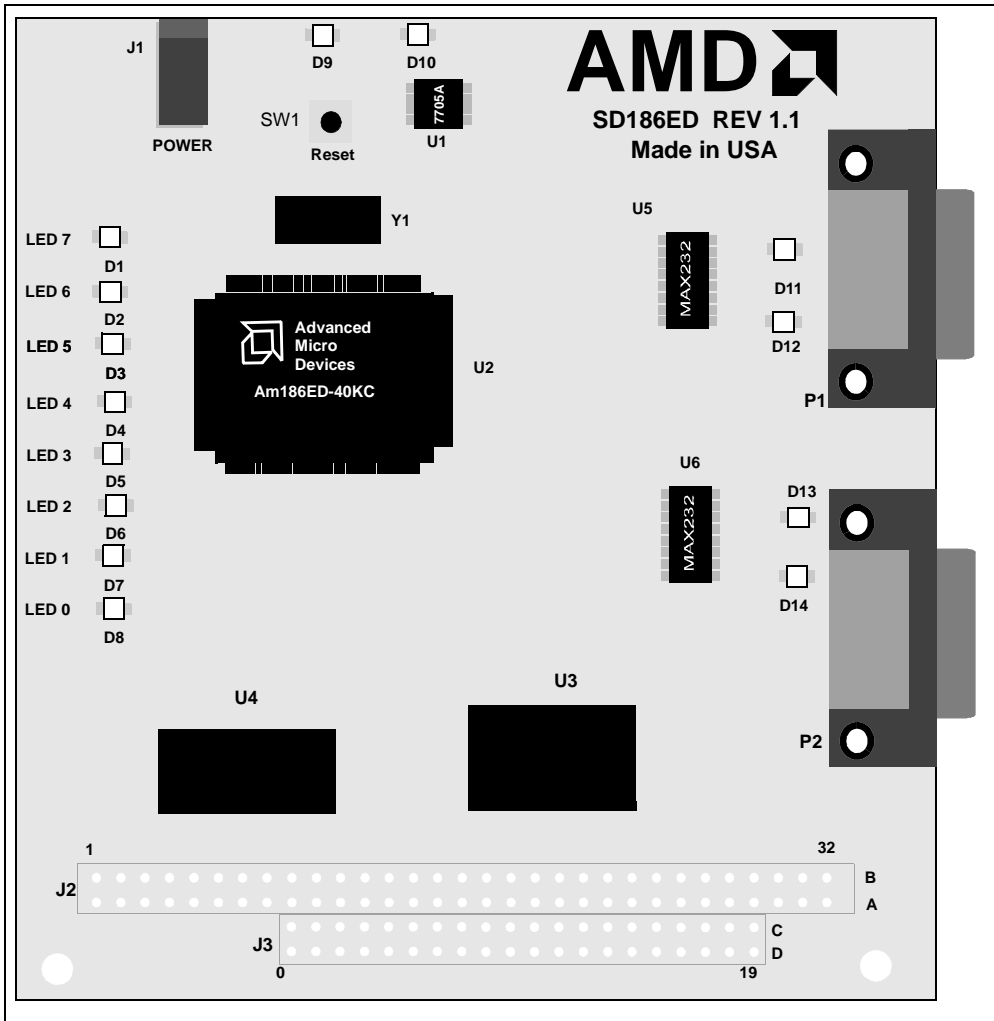

Figure 2-1. SD186ED Demonstration Board Layout
6. Reset the board by depressing and releasing the RESET switch (see location in Figure 2-1 on page 2-3). The LEDs on the board (D1-D8) will flash in an oscillating pattern for three seconds, as they did upon power up.
The design of the SD186ED demonstration board emphasizes ease of use and small size. Refer to Figure 2-1 on page 2-3 for board layout and component placement.